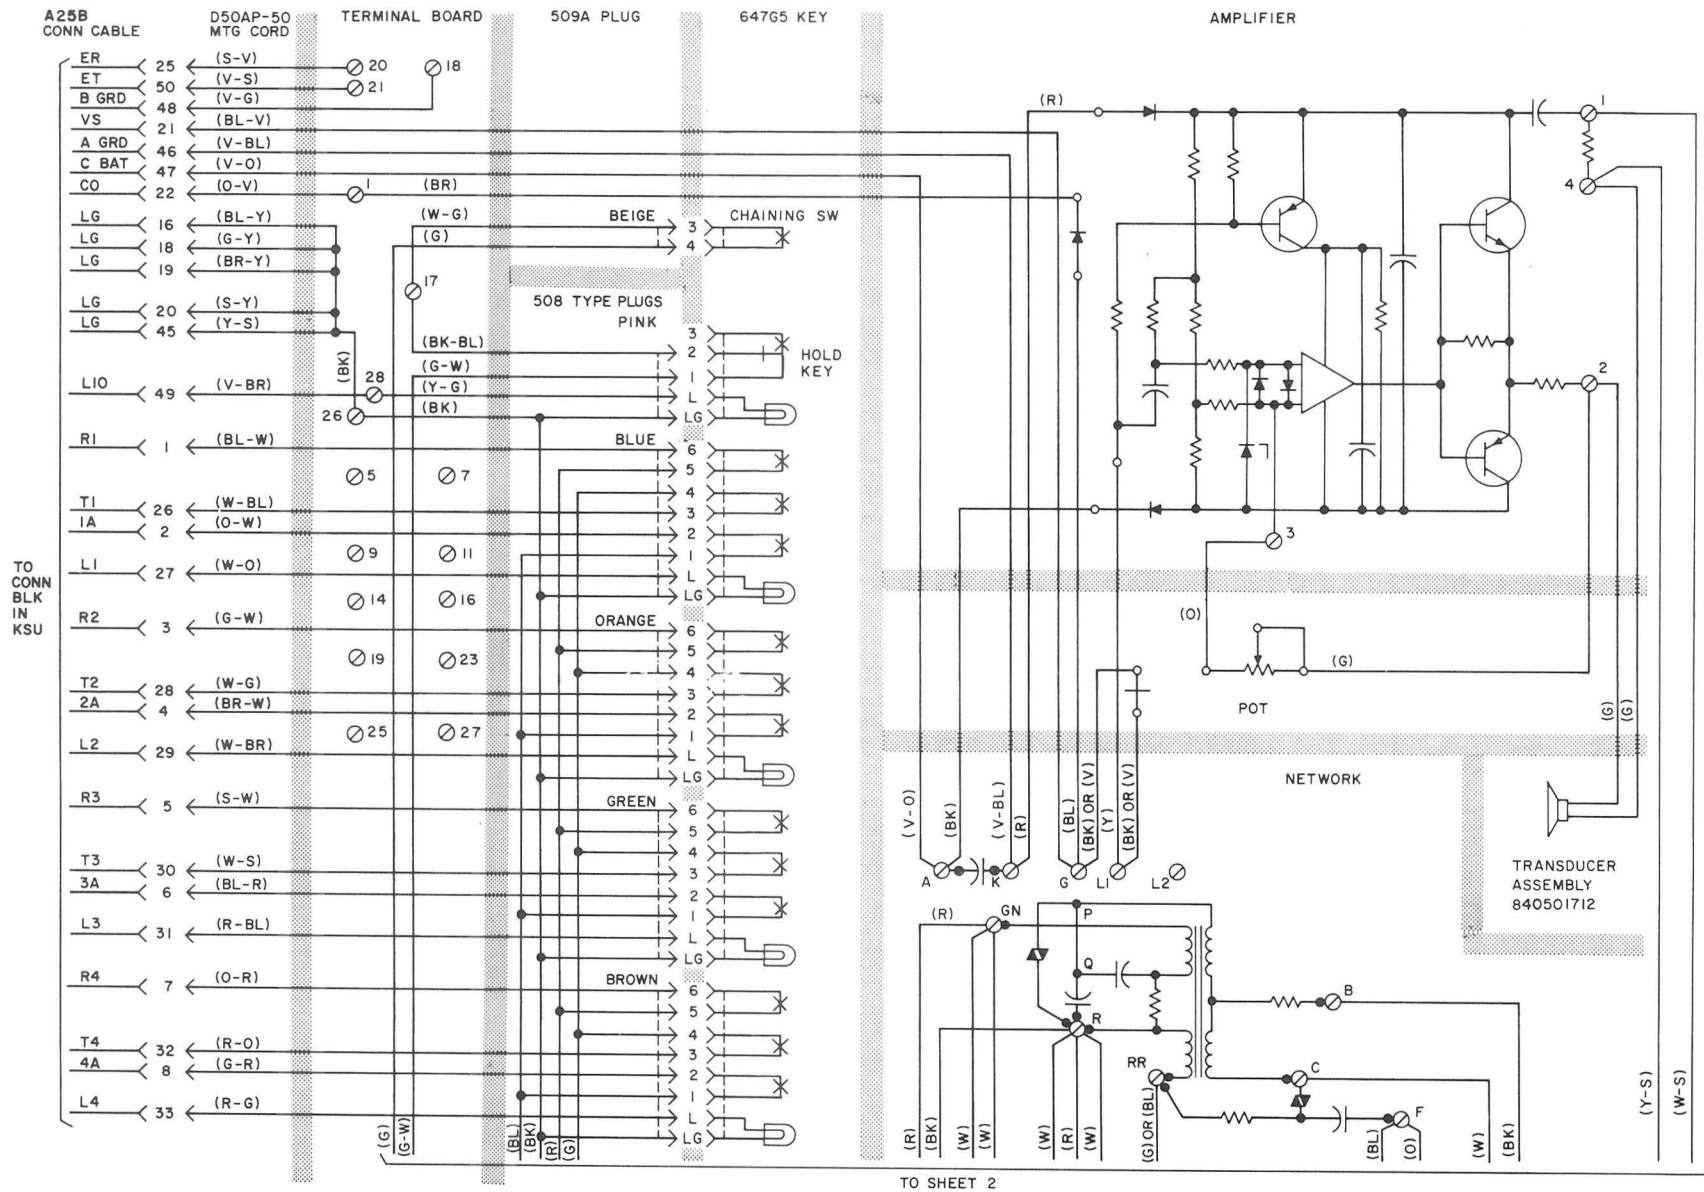

Fig. 10—832A (MD) Telephone Set, Connections (Sheet 1 of 2)
3.22 Refer to Fig. 10 through 19 for telephone set schematics.